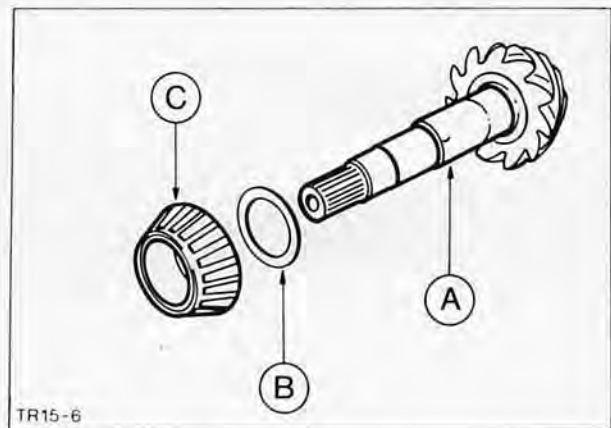

Fig. 43. Press taper roller bearing and chosen shim onto drive pinion
29. Press taper roller bearing and chosen shim onto drive pinion, Fig. 43.